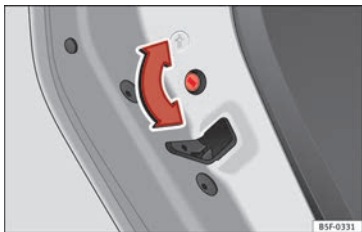

Fig. 105 Childproof lock on the left hand side door
- With the door open, rotate the groove in the door using the ignition key, anti-clockwise for the right-hand side doors and clockwise for the left-hand side doors »» **Fig. 105**
- With the door open, rotate the groove in the door using the ignition key, anti-clockwise for the right-hand side doors, and clockwise for the left-hand side doors »» **Fig. 105.**